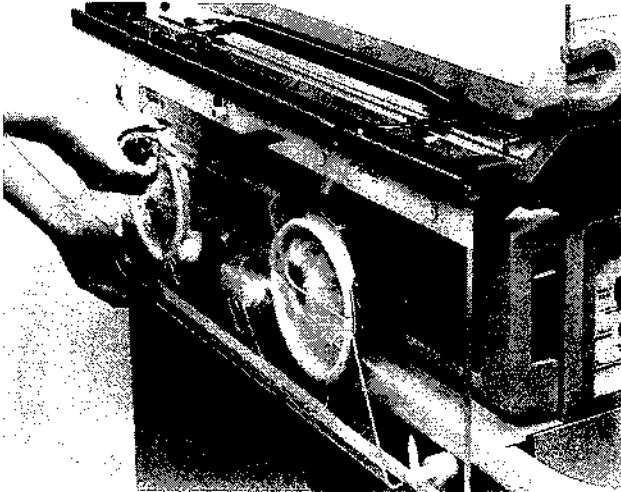

FIGURE 5.3 ACCESS PANEL INNER WALL REMOVAL
- *C. REMOVE ACCESS PANEL INNER WALL (HEAT SHIELD).** Refer to Figure 5.3. With the Access Panel completely open, remove the Inner Wall by simultaneously pulling out at the top and pushing in the downward direction.